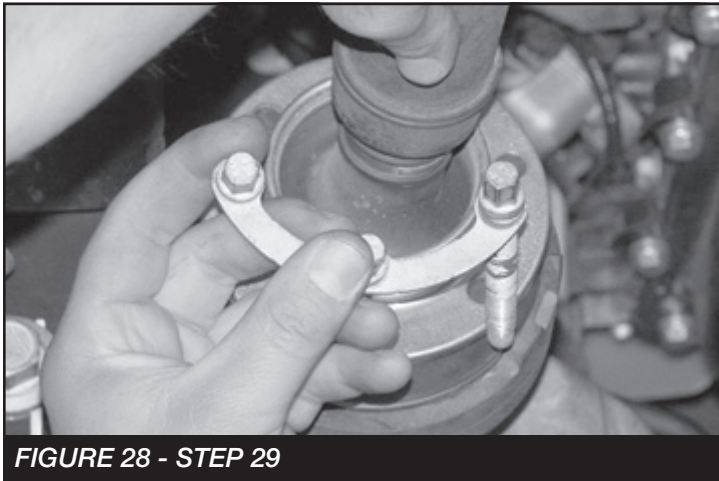

FIGURE 28 - STEP 29
29. Reinstall the front drive shaft with the factory hardware and torque to 35 ft-lbs. **SEE FIGURE 28**